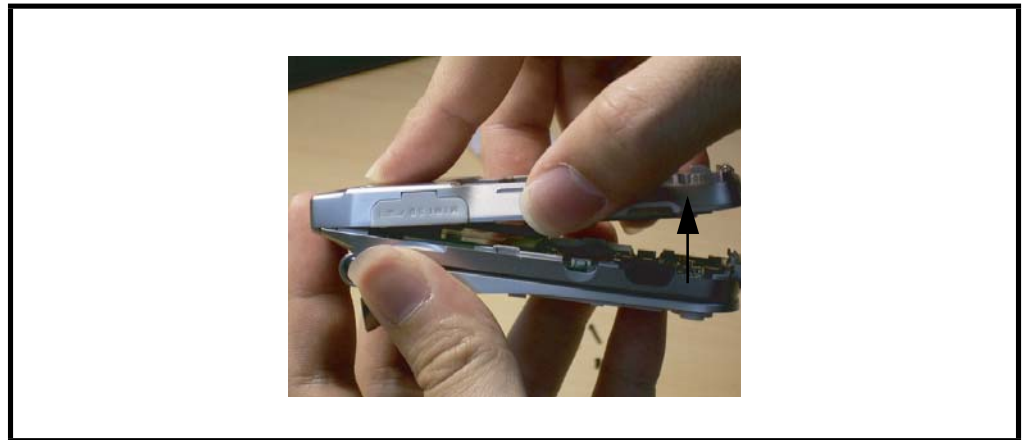

Figure 18. Removing the Rear Housing Cover
3. Disconnect the rear housing cover from the rear housing as shown in Figure 18.